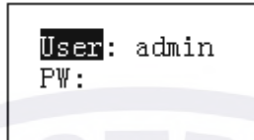

Figure 2-1
- 2) Click **【ENTER】** or **【SETUP】** button to go to the following interface. See Figure 2-1.